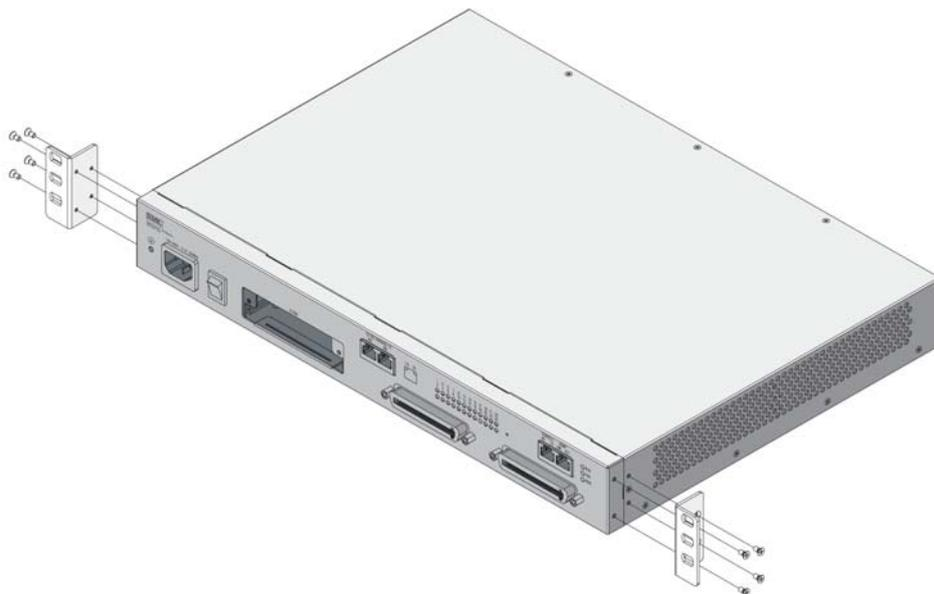

Fig. 3.4 Attaching the Rack Brackets
1. Attach the rack brackets to the edge sides of the system as Fig. 3.4.